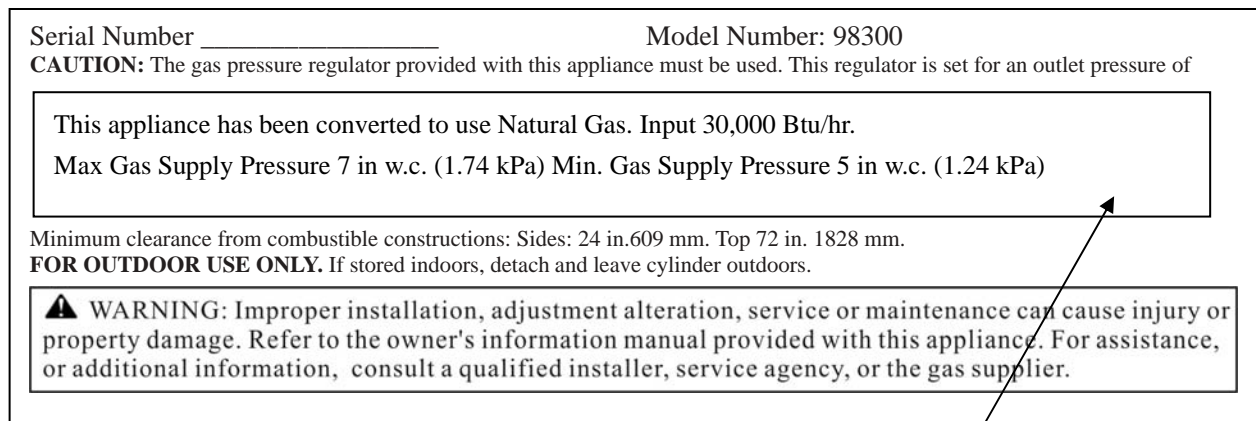

Figure 8
- Stick the conversion label on the rating plate as shown in Figure 8.